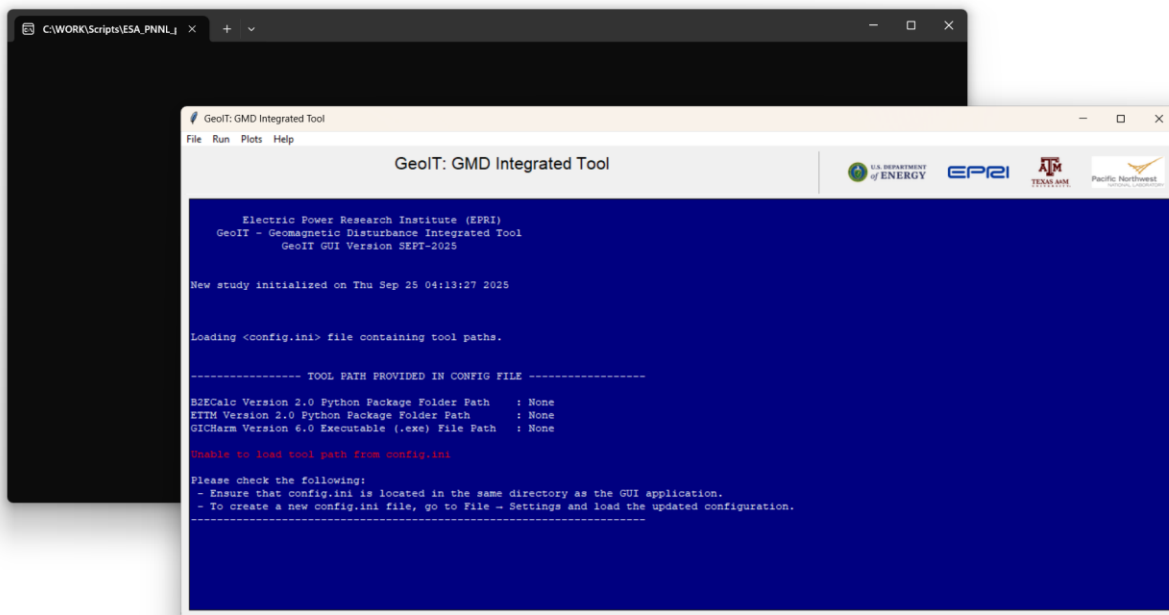

Figure 1. Getting Started—Dialogue Boxes as the Geomagnetic Integrated Tool (GeoIT) Graphical User Interface is Launched
- **Interface Overview:** This action will launch both the GUI window and a console window (see Figure 1).